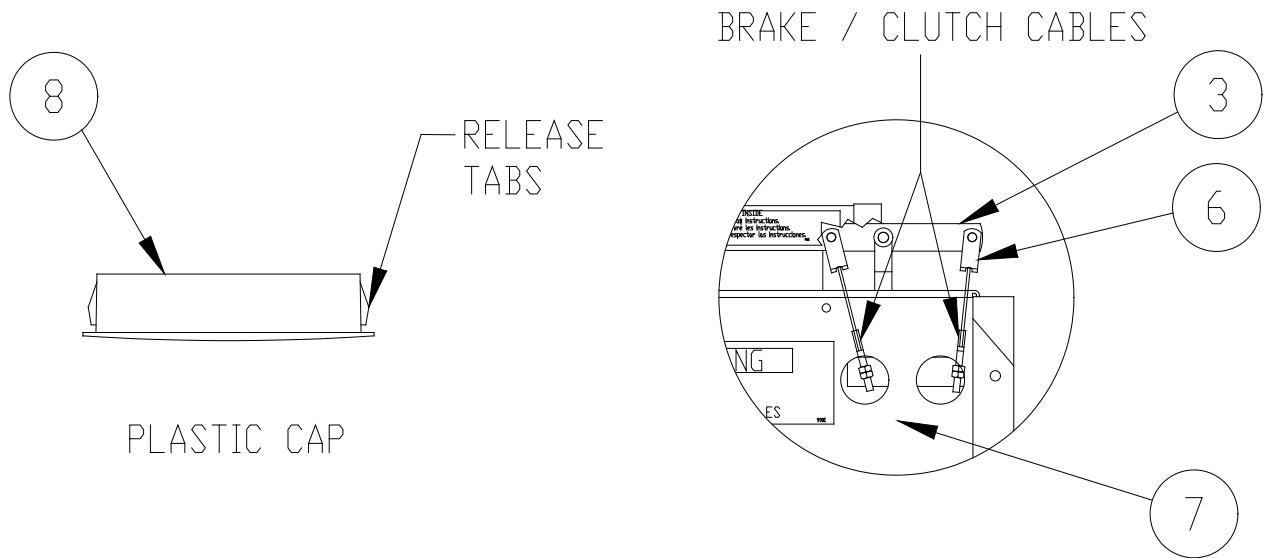

Figure 6-3.
2. Refer to Figure 6-3. Remove the two cable access round caps (B/N 8) from the drum guard (B/N 7) by depressing the cap release tabs located inside the guard.